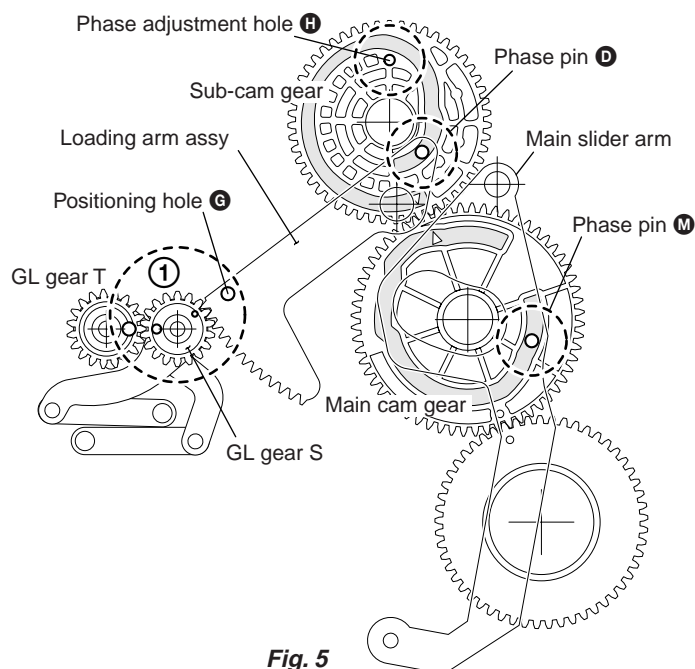

Fig. 5
- ① Attach the loading arm assy. (Refer to the figure above.) The phases of the GL gear S and GL gear T must match and the positioning hole **G** of the loading arm assy must be superimposed on the hole of the chassis. (Fig. 5)
Phase pin **D** of the loading arm assy must be inserted into the groove at the rear of the sub-cam gear. (Fig. 5, 7)
Phase pin M of the main slider arm should be fitted in the groove of the main cam gear (rear side). (Fig. 5)